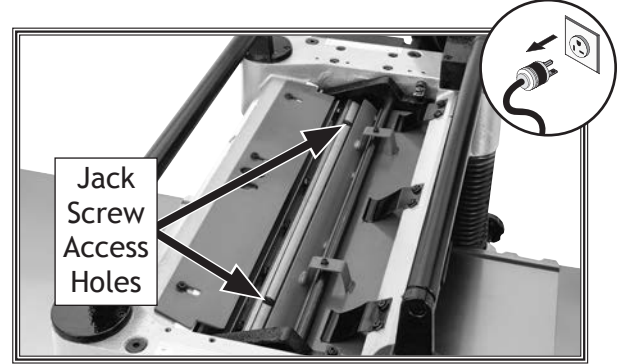
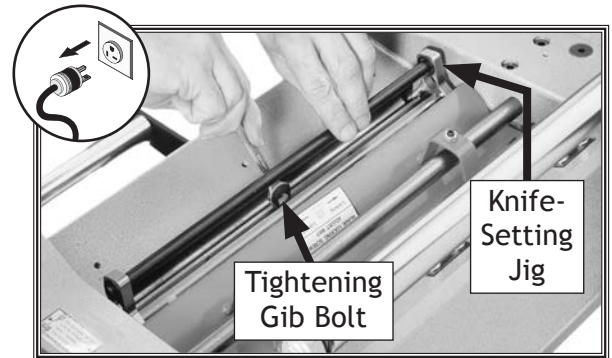

Figure 25. Jack screw access holes in cutterhead.
Figure 26. Using knife-setting jig to set knife height.
7. **Jack Screws:** Insert hex wrench into access holes in cutterhead (see **Figure 25**), and rotate jack screws to raise or lower knife until it barely touches center pad of knife-setting jig with all legs of jig still firmly on cutterhead, then snug gib bolts enough to hold knife in place without fully tightening gib bolts (see **Figure 26**).
Springs: Insert hex wrench into access holes in cutterhead (see **Figure 25**), and remove jack screws. Push down on knife jig until all legs of jig are firmly on cutterhead and knife just touches center pad of jig, then tighten gib bolts enough to hold knife in place without fully tightening gib bolts (see **Figure 26**).